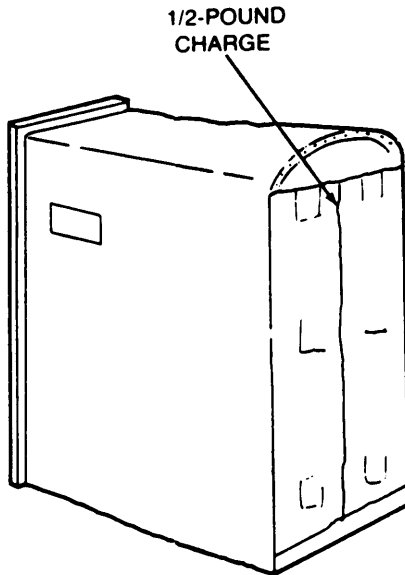

Figure 3-23. Explosive Charge Location for M7 Protective Entrance - M10 Collective Protection Equipment (HAWK).
(2) M7 protective entrance (fig 3-23). Tape charge to door-tensioning assembly.